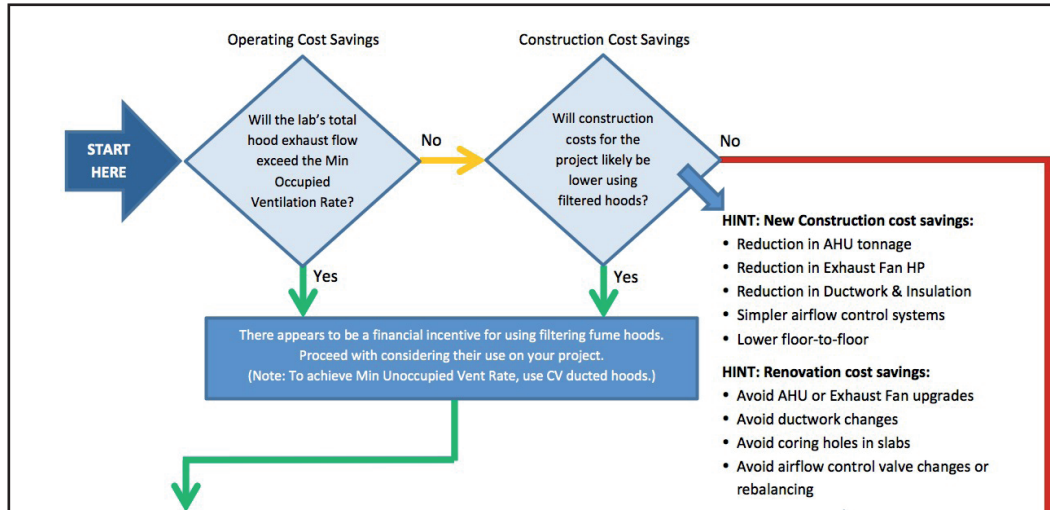
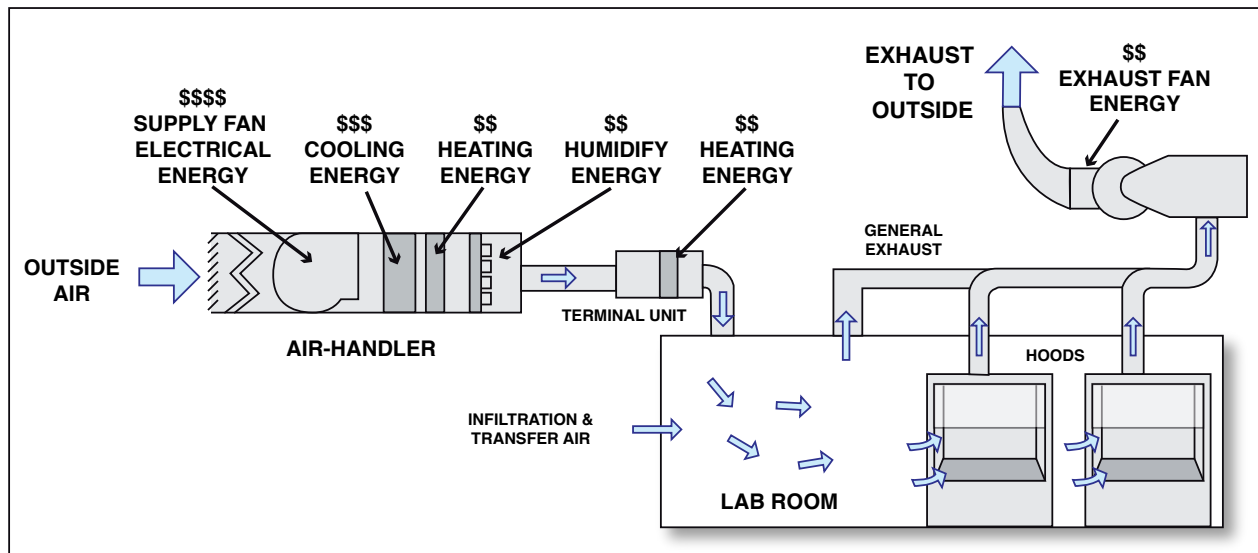

Figure 1: Step 1 - Determine monetary savings
Figure 2: Intensive energy use for ducted fume hoods (US DOE, 2014)
1) Will there be cost savings by using GFH? In almost all cases there will be both operational and construction cost savings, whether this is a renovation project or new construction (Figure 1).
- i. The largest operating cost of a laboratory is the HVAC systems that provide the correct environmental conditions. The control system must balance the airflow needs of the lab and provide enough conditioned air to satisfy the greater demand of (3) main categories:
As such, if the make-up air demand for the fume hoods (item 3 above) is so great that it exceeds the other two categories for at least some periods of time, then there is the potential for reducing the volume of air being delivered to the lab. That reduction in air volume is where operational cost savings will be generated. Heating, cooling, filtering, dehumidifying and delivering make-up air to the lab is very expensive (see Figure 2 below). In North America, the typical cubic foot per minute (CFM) of fresh air costs between \$5.00 and \$8.50 per year in energy costs and a standard ducted fume hood can consume between 600 and 1,250 CFM of air, depending upon sash position. This high operational cost provides ample savings to offset the cost of replacement filters over time.